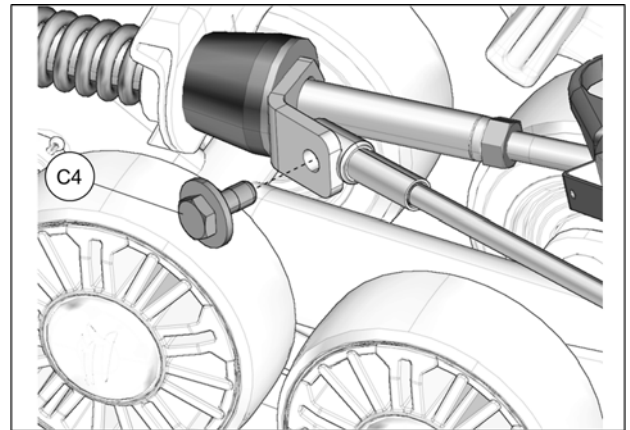

Fig. 23
13. Reverse steering wheel a little to be able to bolt support plate and cable together. Tighten provided bolt (C4) to 35 N•m [24 lb•ft]. See Fig. 23. Repeat steps on right side.